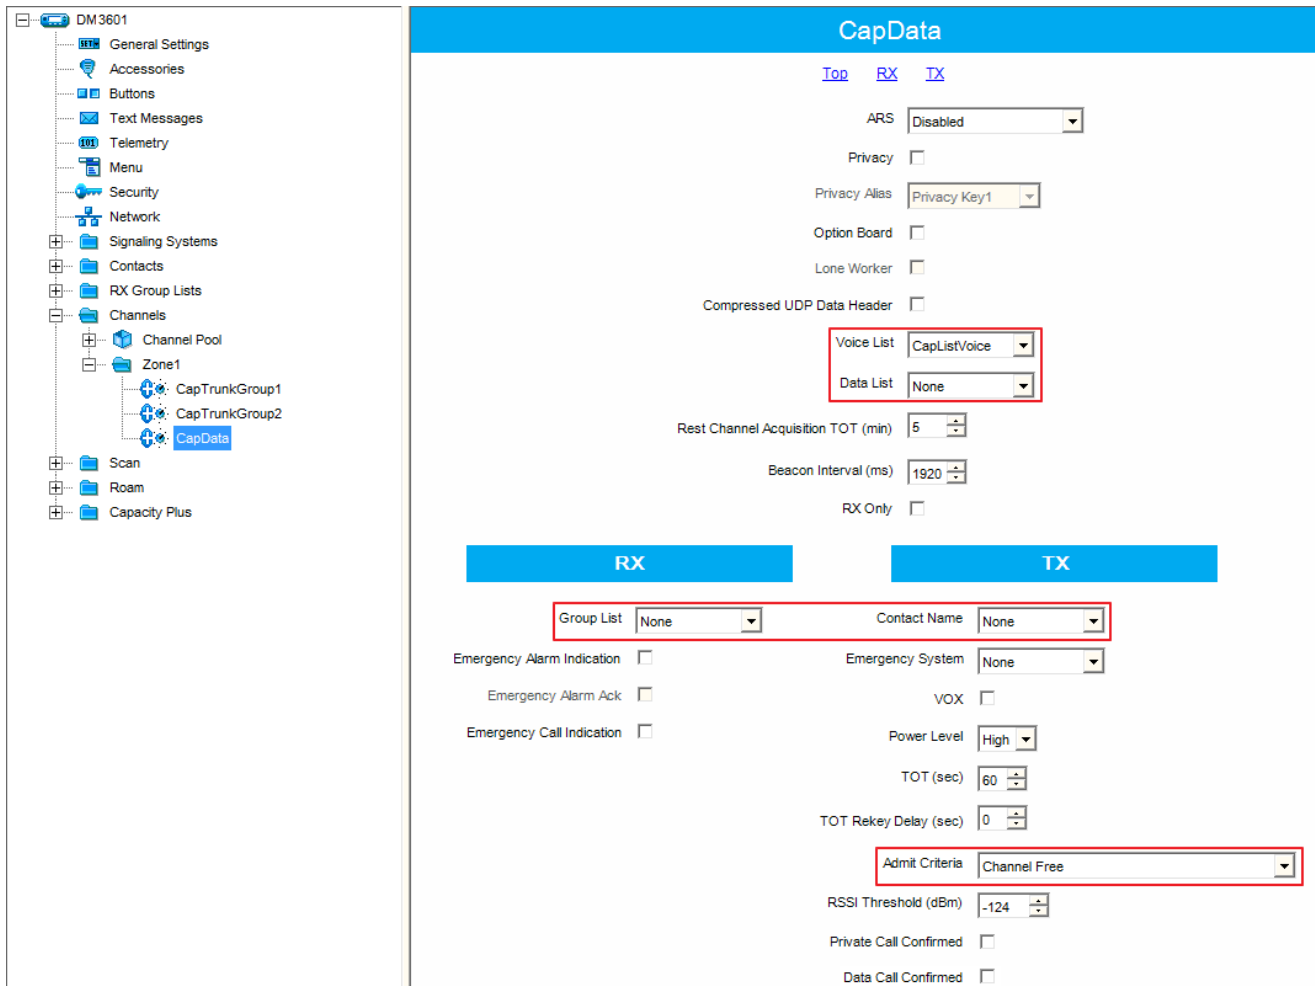

Fig. 19 - Setting parameters for data transmission channel
6. Add the created voice channels to the **Members** list of Capacity Plus voice channels. Add the channel pool of the Master (Trunk) repeater first (**ID = 1-2**), then add the channel pool of the Slave (Trunk) repeater (**ID = 3-4**) (Fig.19).